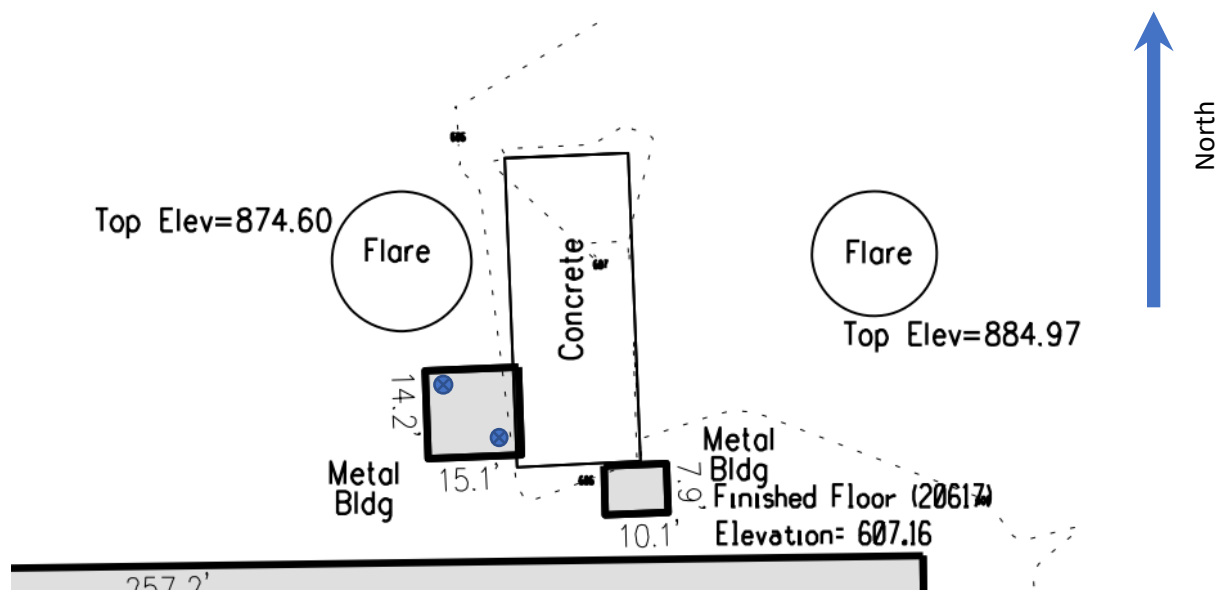

Figure 1 – Sample Locations Former Caustic Tank Secondary Containment
- iii. Two sample locations, northwest corner, and southeast corner (see Figure 1 below).